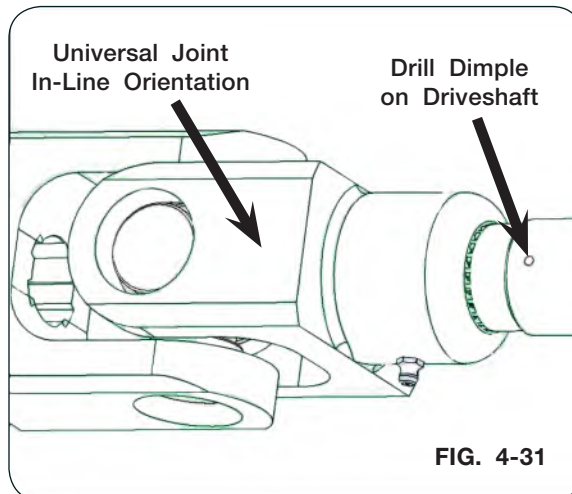

FIG. 4-31
13. With bearing mounting hardware completely tightened, drill a setscrew dimple in the driveshaft by going through the bearing setscrew threaded hole to dimple the driveshaft being careful to not damage threads. Drill the dimple to a depth that setscrews are flush with the bearing prior to applying thread locker and installing setscrews. (FIG. 4-31)
14. For alignment of the yoke, the orientation of the universal joint at the gearbox must be in line with the driveshaft drill dimple when the driveline assembly is attached. (FIG. 4-31 and 4-32)